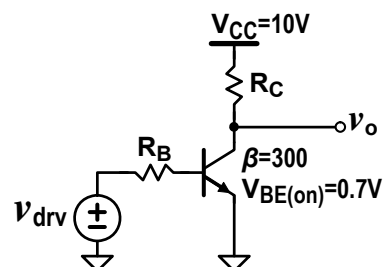

Figure 4. Switching circuit
- For the circuit given in Figure 4, find the values of  $R_C$  and  $R_B$ , so that  $I_{Csat} = 2 \text{ mA}$  and  $v_O$  changes between 10 V and 0 V while  $v_{drv}$  is a 1 kHz square wave signal switching between 0 V and 10 V. Draw  $v_{drv}$  and  $v_O$  as a function of time.
**4.a)** Setup the circuit in Figure 4 using the  $R_B$  and  $R_C$  values previously calculated in the preliminary work. Set  $v_{drv}$  source timing parameters to obtain a **10 kHz** pulse signal with **50 %** duty cycle (i.e. `PULSE(0 10 0 1u 1u 49u 100u)`). Keep the  $v_{drv}$  source **Trise** and **Tfall** settings at **1  $\mu$ s** all the time. Set simulation time long enough to observe the steady state  $v_O$  waveform. Change the peak voltage of  $v_{drv}$  as in the following table and record the peak-to-peak  $v_O$  voltage.